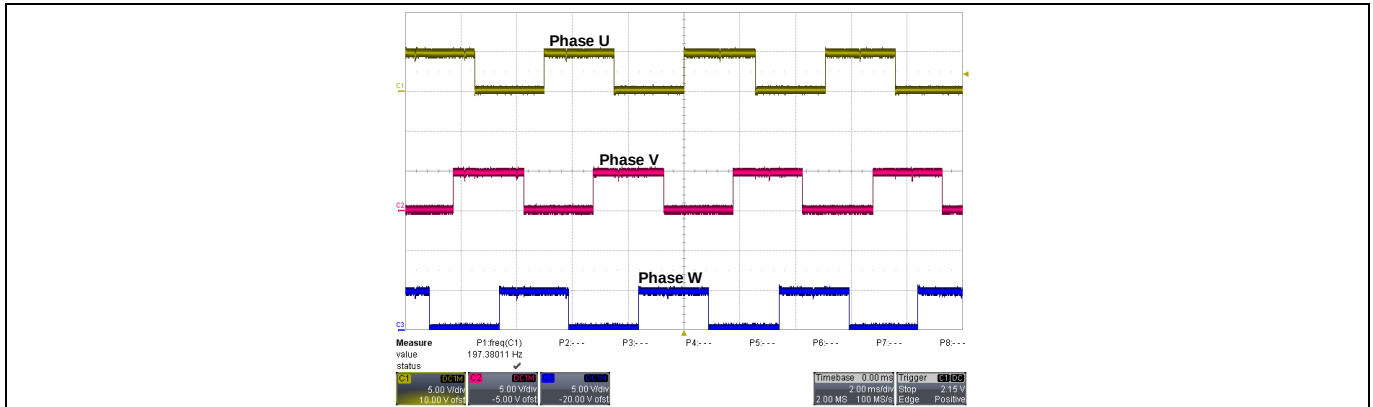

Figure 31 Hall sensors output pattern at 6000 RPM rotor speed
For both modulation cases, the PWM pattern changes according to the hall sensors outputs in each 60° rotor angular displacement. The outputs of the hall sensors are shown in Figure 31 for a 2 pole-pair BLDC motor at 6000 RPM rotor speed. With the frequency of these signals, which is approximately 200.0 Hz based on the oscilloscope measurement, and knowing the number of pole pairs of the BLDC motor (2), one can derive approximately the 6000 RPM rotor speed.